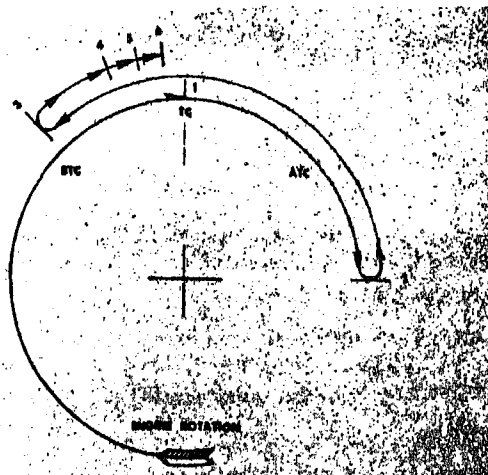

Fig. 14-1-39. Injection timing procedure
Note: Refer to Fig. 14-1-39 and the condensed instructions following this figure while performing the following steps.
1. Bar engine to top center firing position; set indicator above piston at "O", Fig. 14-1-39.